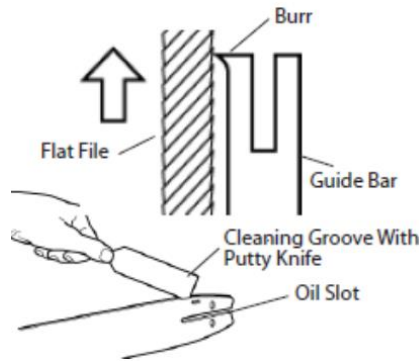

Figure 11
- Periodically remove the sawdust from the guide bar groove. Use a putty knife or wire (See Figure 11).